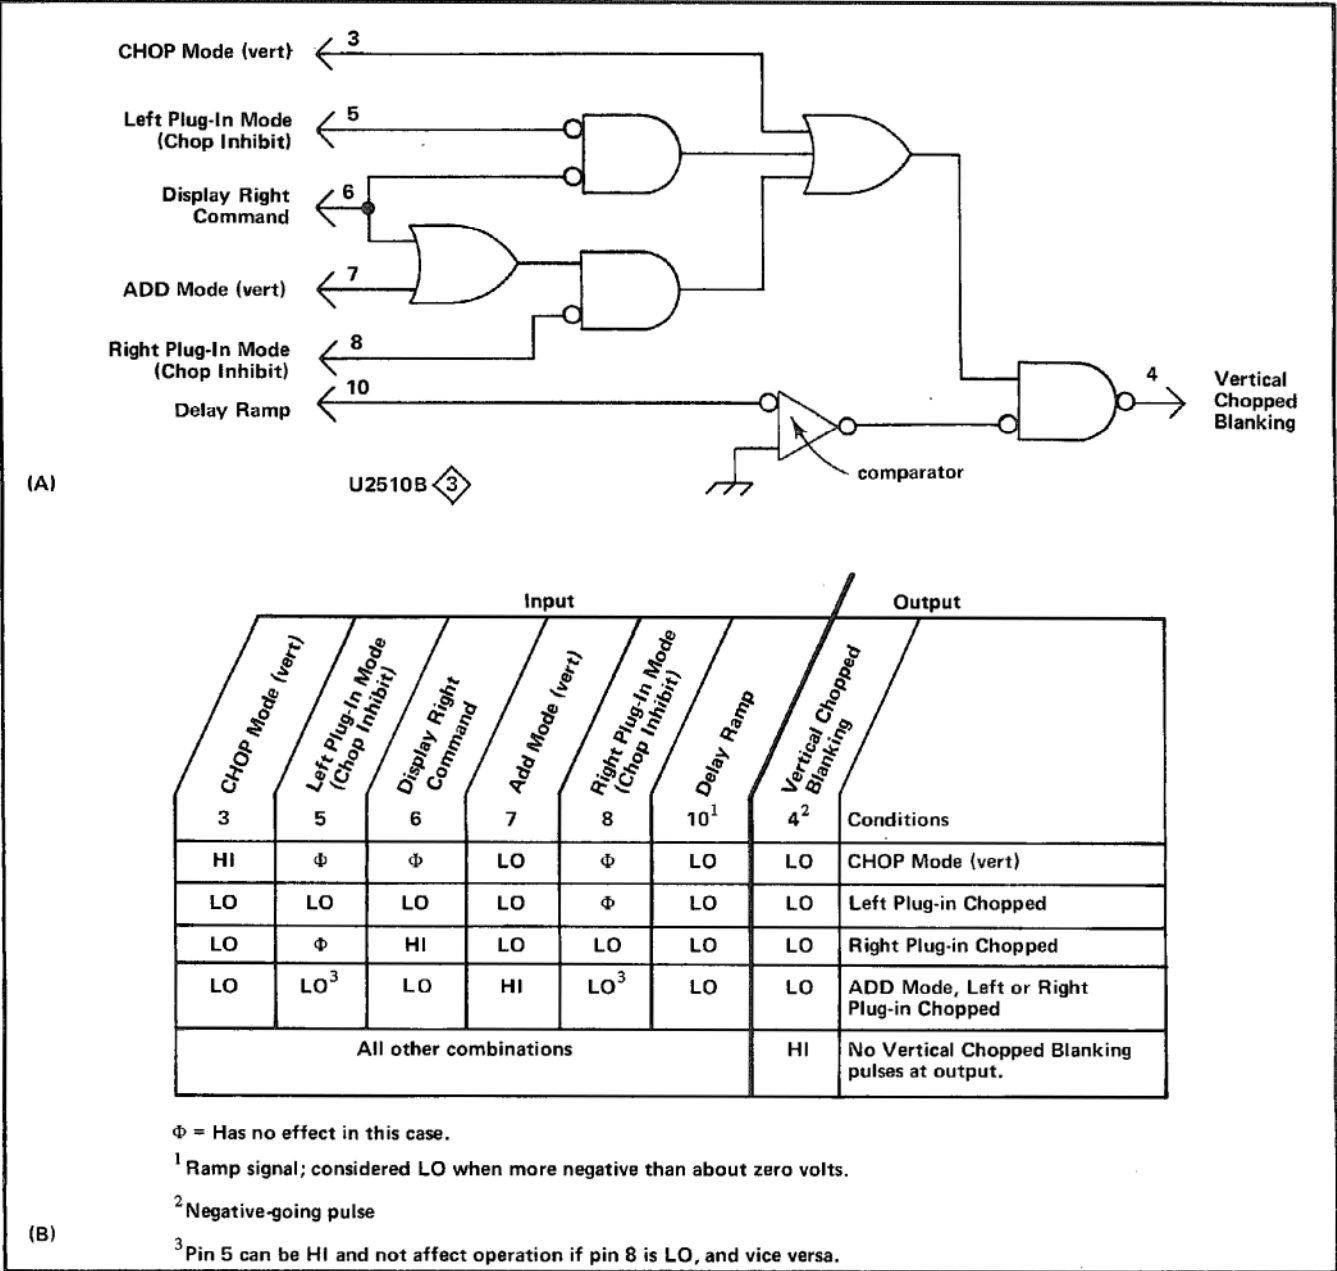

Fig. 2-16. (A) Logic diagram for Vertical Chopped Blanking stage; (B) Table of input/output combinations.
Figure 2-16 shows a logic diagram and an input/output table for the Vertical Chopped Blanking stage. Notice the comparator block on the diagram. The output of this comparator is determined by the relationship between the levels of its inputs. If pin 10 is more positive (HI) than the grounded input, the output is HI also; if it is more negative, the output is LO.